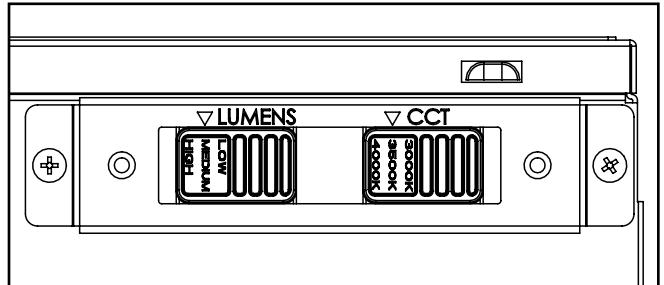

Figure 7.
10. With fixture powered on, use the lumen switch and CCT switch (if equipped) to adjust the fixture to the desired lumen level and CCT (Figure 7). Refer to label on top of driver for lumens and wattage of each setting.